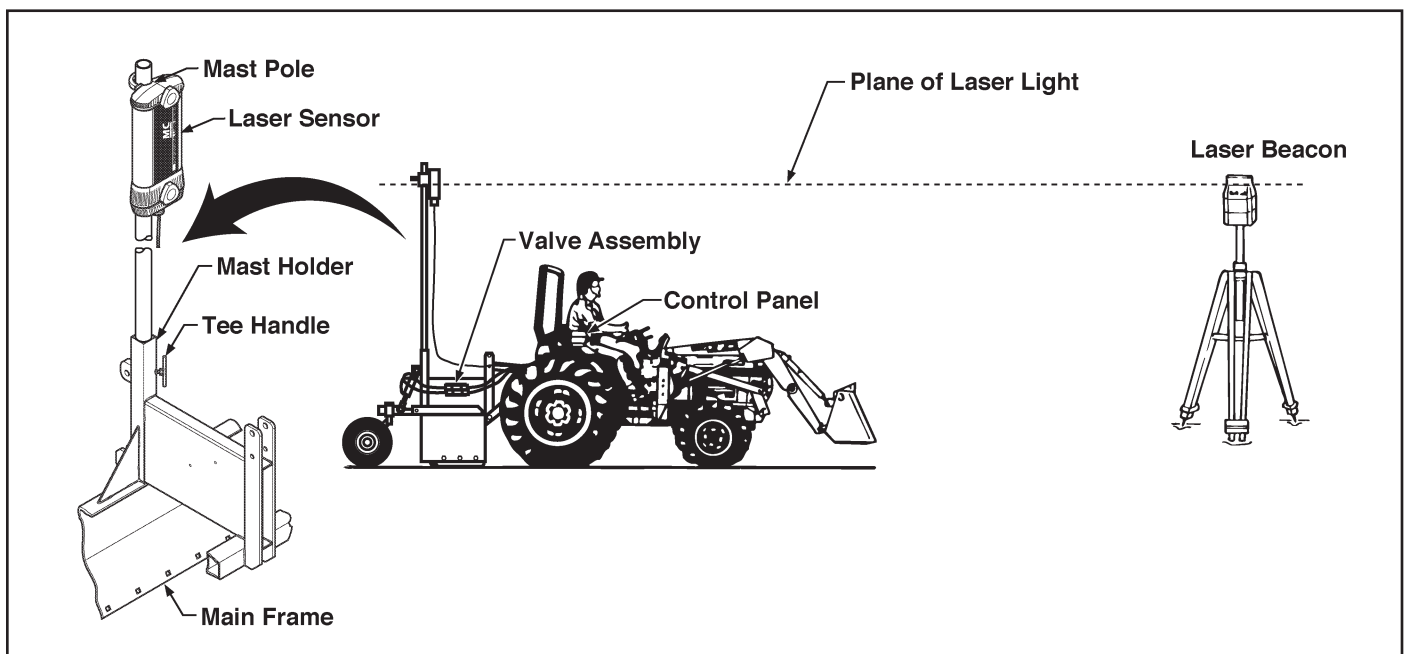

Figure 3. Components of the Automatic Control System
6. Insert the mast pole into the holder until it rests on the bottom of tube and tighten the tee handle to secure. Clamp the Laser Receiver near the top of the mast so it is higher than any local obstructions including the tractor cab or fall protection devices. (Refer to Figure 3).